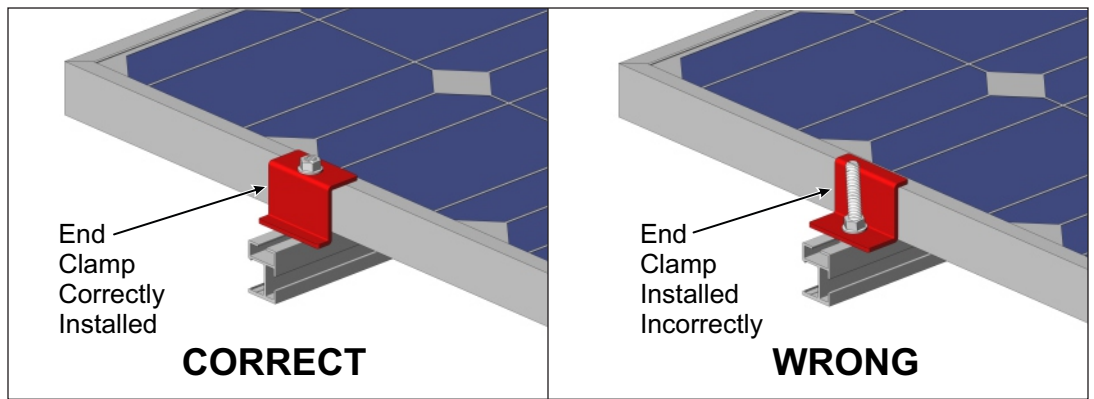
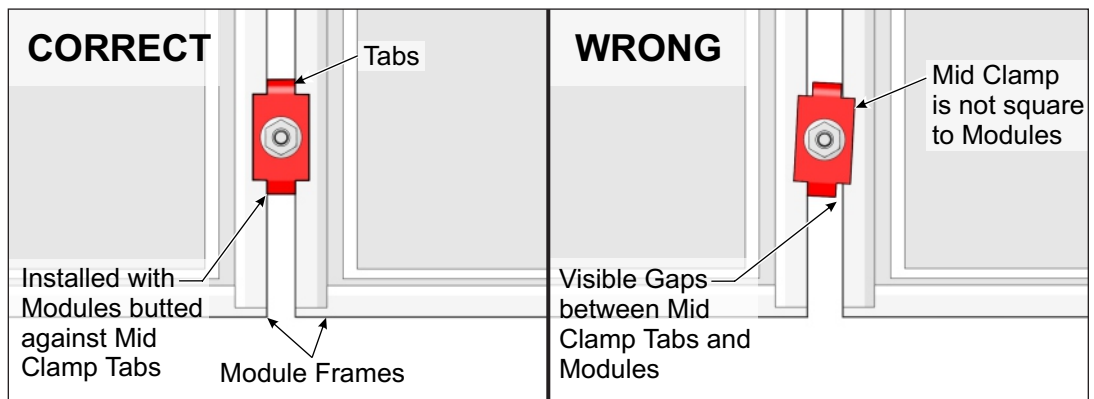

Figure 4-1: Correct and Wrong methods of installing Standard End-Clamp using RAD Bolts
Figure 4-2: Correct and Wrong methods of installing a Mid Clamp using RAD Bolts
There is only one correct method of installing End Clamps and Mid Clamps. Failure to follow the correct method could lead to personal injury, structural failure, and/or damaged components. See Figure 4-1 for proper method of installation for an End Clamp and Figure 4-2 for the Mid Clamp. Refer to these figures during the installation of the Modules to prevent any undue problems associated with an improper installation.
- B. Insert one 5/16" x 2, 2-1/4, 2-1/2 or 2-3/4" RAD bolt into the top slot of the Power Rail. Push the bolt against the side of the module frame and twist to lock in place. Install End Clamp onto bolt and secure with 5/16" flange nut. **Torque to 17 ft.-lbs.** (See Figures 4-1 and 4-3)
- F. Push Modules against Mid Clamp tabs and secure Mid Clamp with 5/16" flange nut. **Torque to 17 ft.-lbs.** (See Figures 4-2 and 4-4)